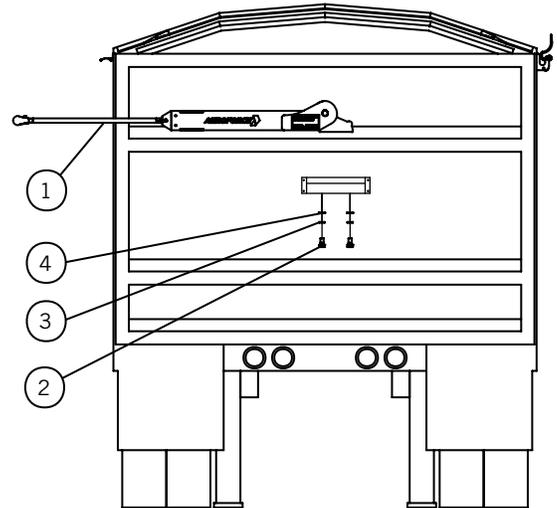

Figure 30-1
- 1) **Figure 30-1.** Using the supplied hardware, mount the rear arm assembly to the mounting bracket located on the rear of the trailer.